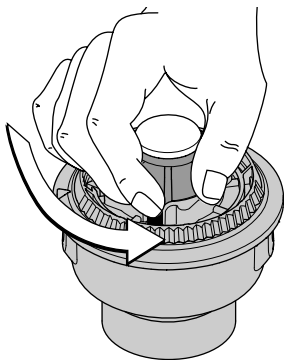

Fig. 20
1. Hold the outer spool, and unscrew the bump knob counterclockwise (Fig. 20).